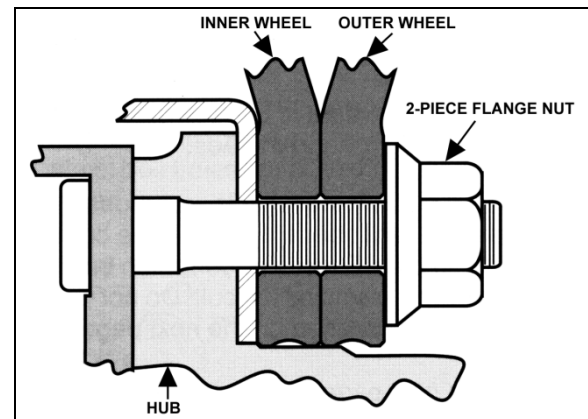

FIGURE 4: DRIVE AXLE WHEELS 13007
1. Loosen a hex stud nut three turns (Figure 4);